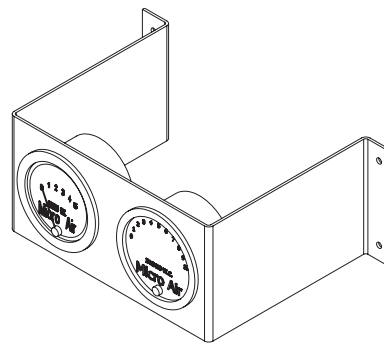

Figure 3
1. Mount the gauges in the gauge bracket (Fig 3).